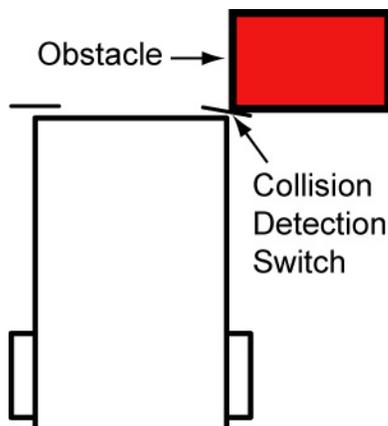
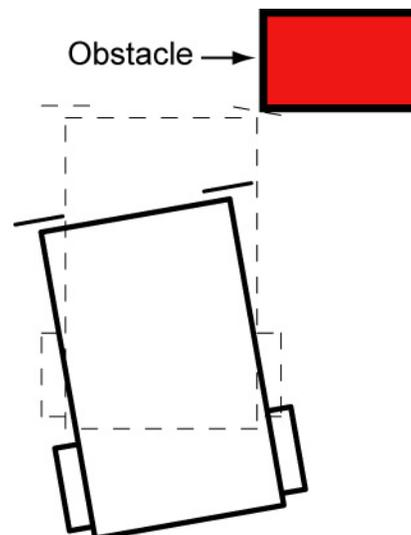

Figure 1
Figure 2
- Our collision detection sensor system consists of two switches mounted on the front of the car. When either of the switches is pressed (Figure 1), the car should back up and then turn to avoid the object encountered (Figure 2).